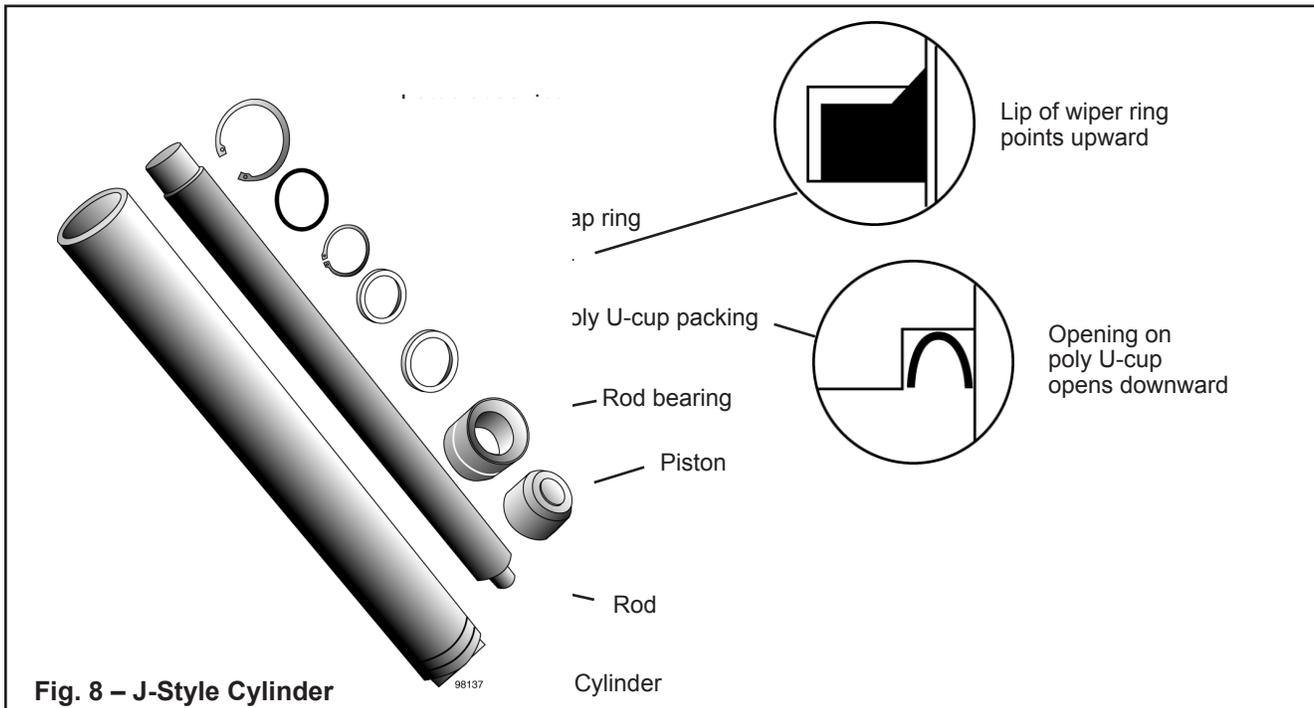

Fig. 8 – J-Style Cylinder
This section will tell you how to repack a "J-style" cylinder, shown in Figure 8. This type of cylinder is exclusive to Southworth, and repacking kits are only available through Southworth. To order a repacking kit, please call the Parts Department at (207) 878-0700 or (800) 743-1000. When ordering, specify the model number and serial number of the lift, and the cylinder number(s), as stamped on the base of the cylinder(s).
Figure 8 shows the parts inside a J-style cylinder. At the upper end of the cylinder, remove the large snap ring. Pull the rod and piston all the way out of the cylinder. This assembly is heavy! Be careful not to drop it as it comes free.
Be careful not to install the wiper backwards. The lip on the wiper should point upwards, as shown in the detail in Figure 8.